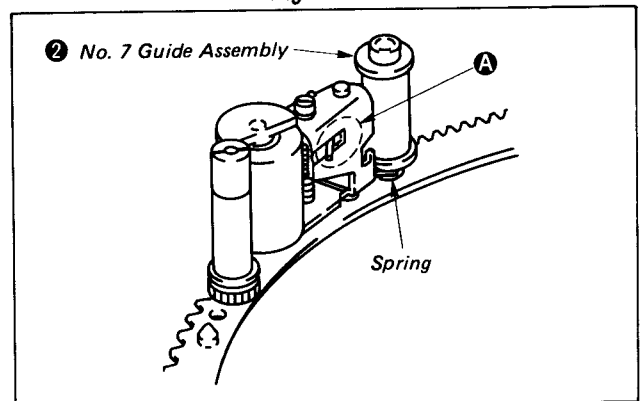

Fig. 1-27
- 4) Rehook the spring on the No. 7 guide assembly **2**. Confirm that the spring is hooked to part **A** at this time. (See Fig. 1-27.)